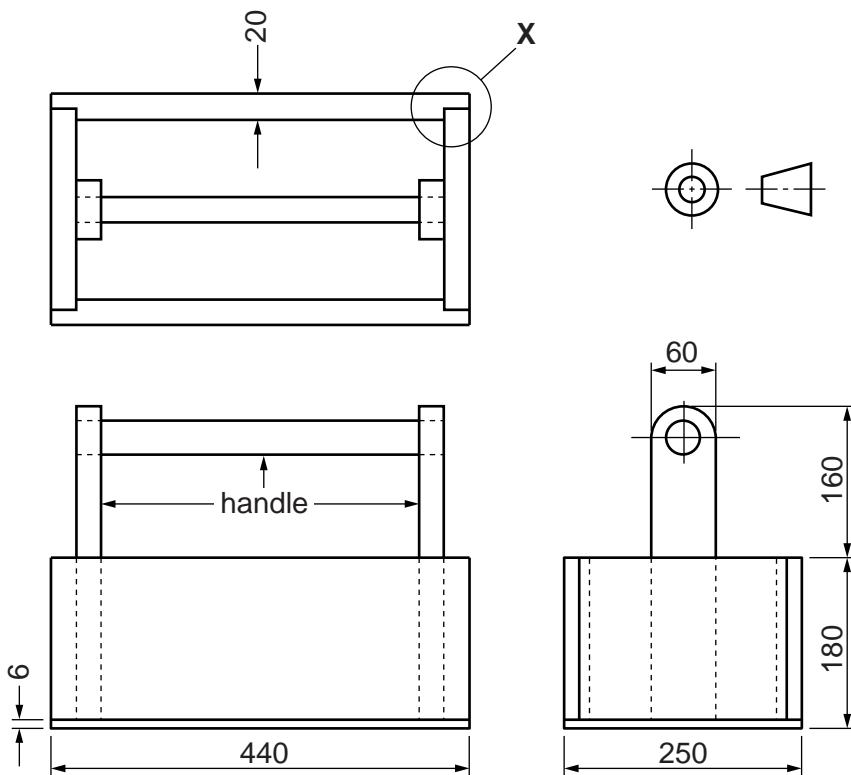

Fig. 1
- 1** Fig. 1 shows a toolbox which is to be made in a school workshop.